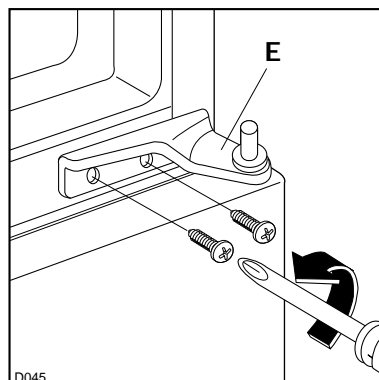
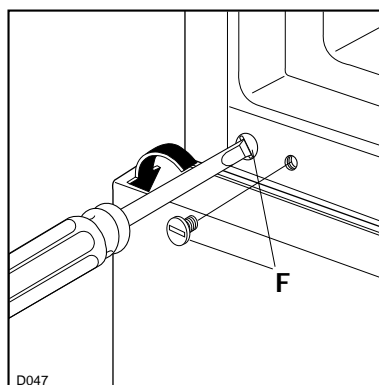

Fig. 7
Fig. 8
Slide the upper door out of the middle hinge (E-Fig. 7).
3. Dismantle the middle hinge (E-Fig. 7), rotate 180° and refit on the opposite side. The holes are masked by the plugs (F-Fig. 8). These will be used to plug the holes left free.